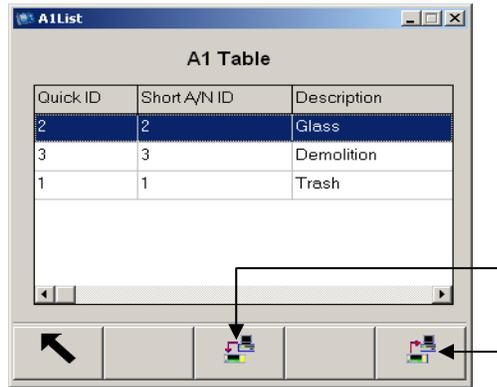

Figure B-15: A1 Table Contents
- Click on the Database Query icon to display the contents of the A1 Table (Figure B-15).
- To download the contents of the A1 Table to a Microsoft Excel spreadsheet, click on the Download Button (Figure B-15). The Export Success dialog box (Figure B-16) displays to indicate the table data was successfully retrieved.
- After editing/saving the information from Microsoft Excel, the table data can be uploaded into the IND310drive by clicking on the Upload button (Figure B-15).